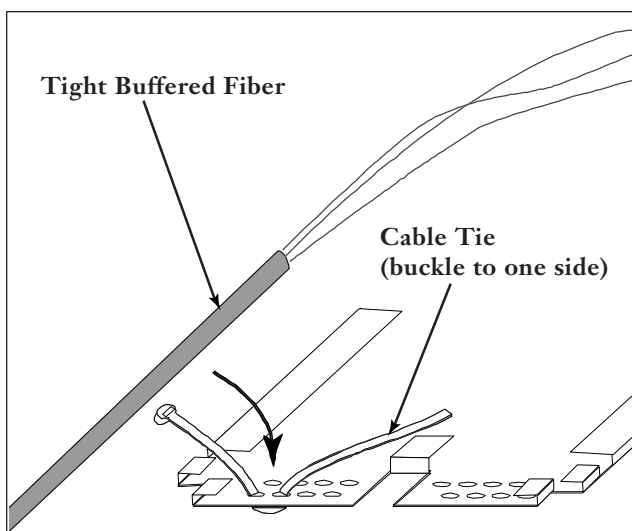

Figure 6
7.1 Tight buffered fibers are generally secured with cable ties threaded through holes in the tray (Figure 6). Position cable tie buckles inside the tray and to one side of the cable bundle to avoid interference with the cover.